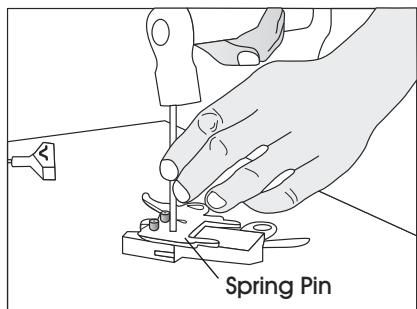

Figure 20
7. Take off the spring pin with a hammer and 6mm straight rod. (See Figure 20)